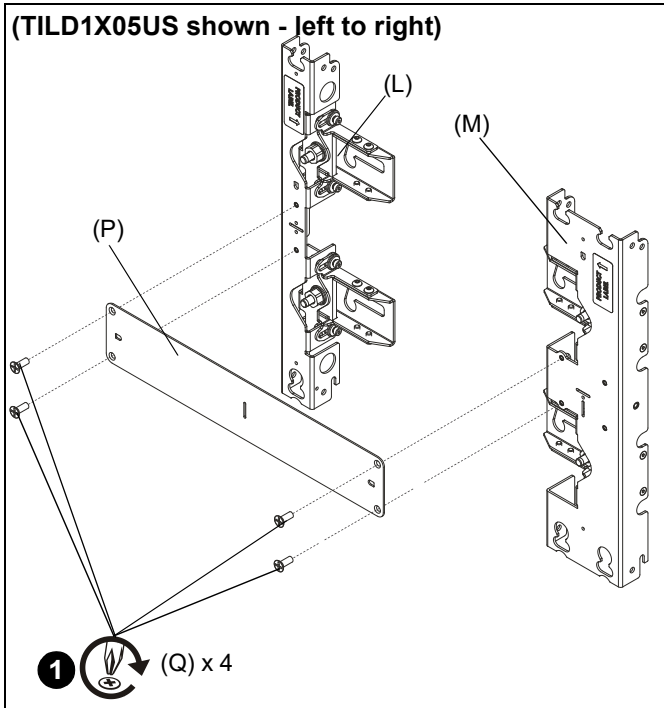
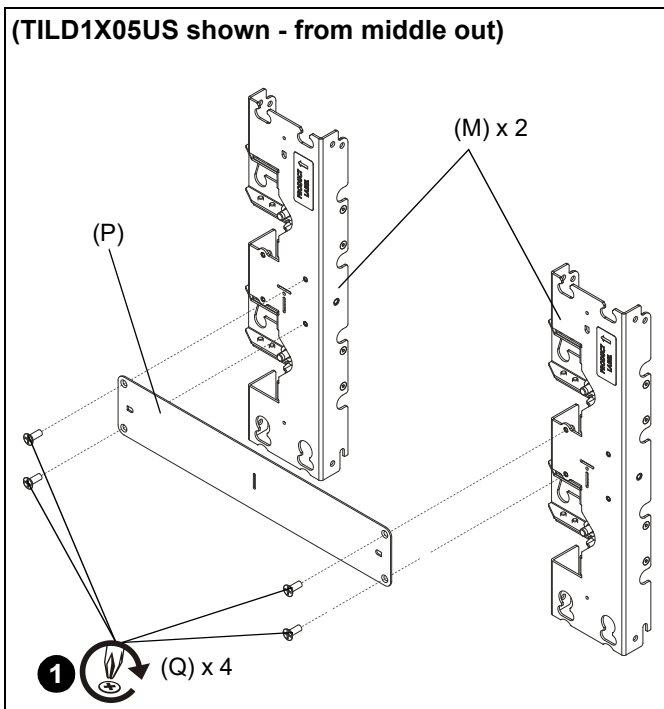

Figure 2
Figure 3
1. Use four 10-24 x 1/2" flathead Phillips screws (Q) to secure spacer plates (P) to mounting uprights (L and M or M and M). (See Figure 2) or (See Figure 3)
**IMPORTANT !** : If installing from left to right, first attach left upright (L) to middle upright (M). If installing from the middle out, first attach two middle uprights (M) to each other.